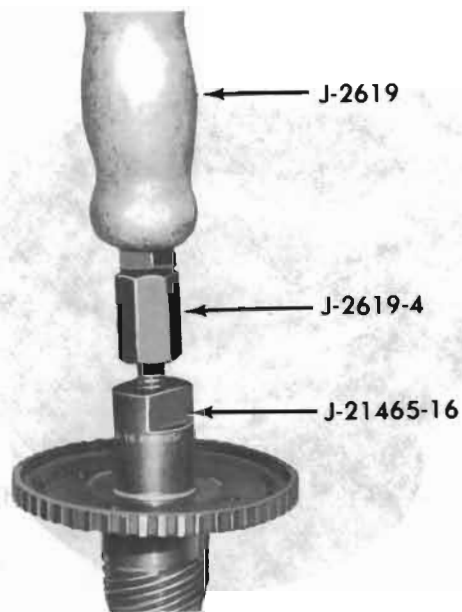

Figure 76-121
- a. Thread Tool J-21465-16 into bushing using Slide Hammer J-2619, remove. See Figure 76-121.